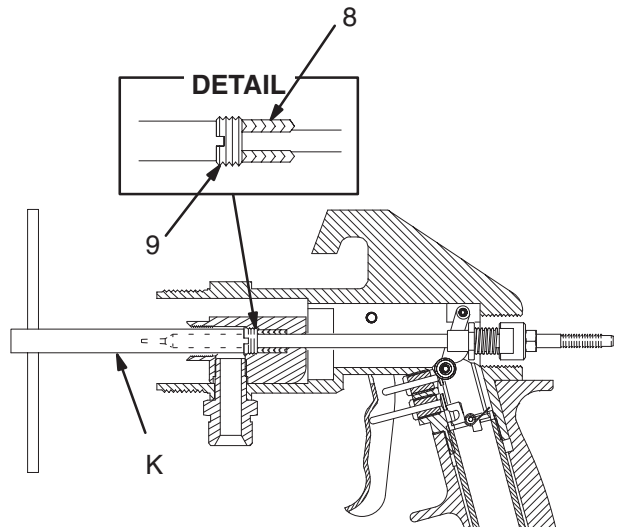

Fig. 22
4. Trigger gun while slightly turning packing nut (9) clockwise with packing wrench (K), provided. See Fig. 22. This compresses packings.